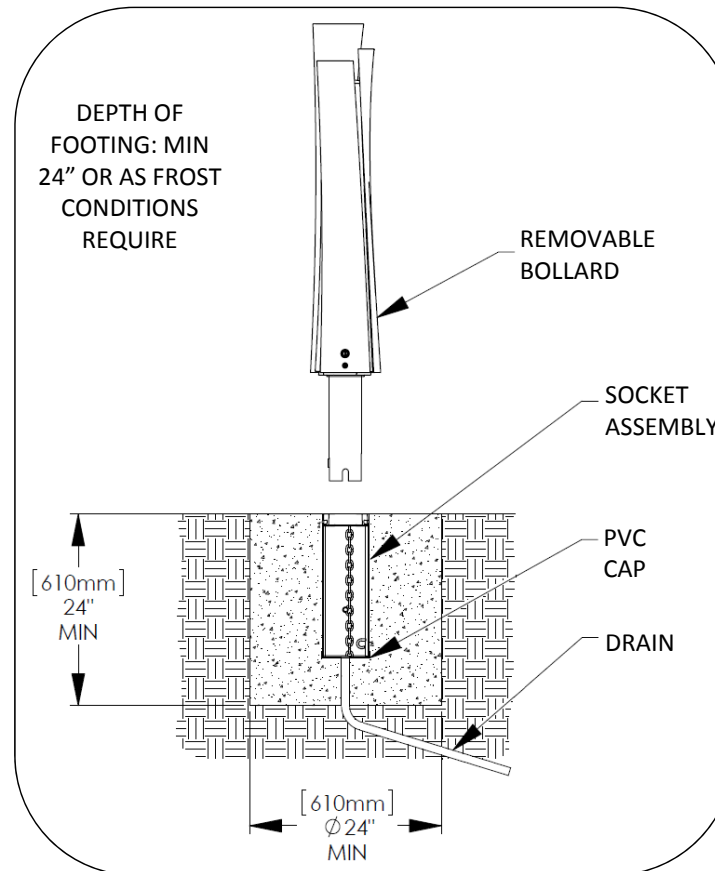

FIG. 1 - FOOTING DETAIL FOR REMOVABLE BOLLARD
1. Excavate for socket footing and install drain (see Figure 1). Depth of socket is 1'-6". Footing depth is the responsibility of the installer and should comply with local and national building codes. Frost depth should be taken into consideration. Landscape Forms recommends 24" minimum depth to fully retain the socket.